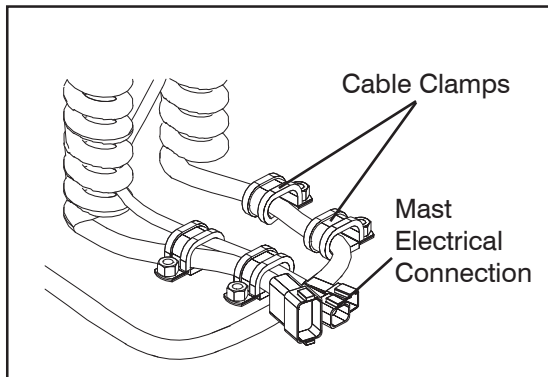

Figure 5-20. Base Wire Clamp Location
- Remove all the cable clamps, base support plate and ground wire at the mast 1 base. See Figure 5-20 and 5-21.